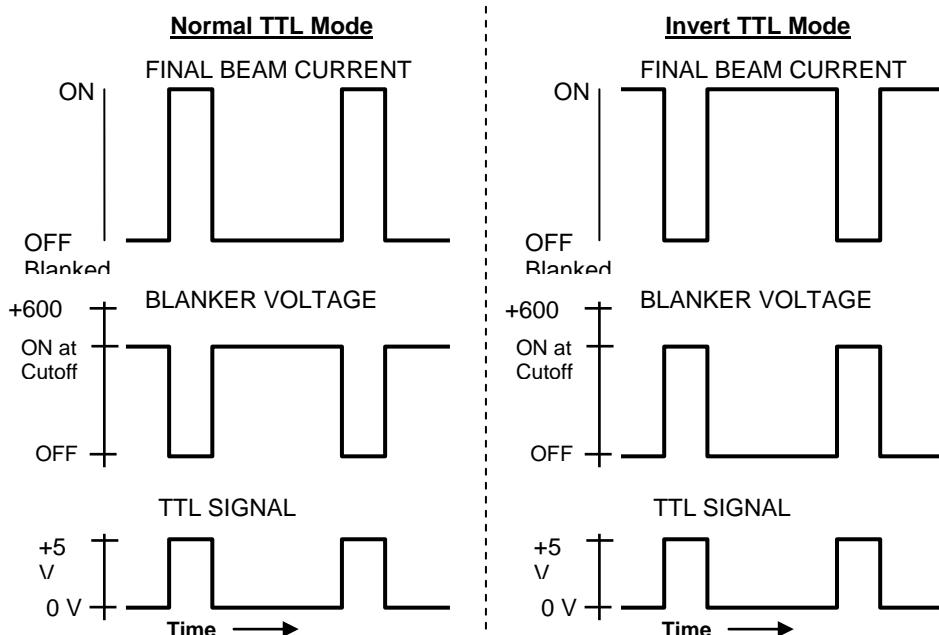

Fig. 4.10-3 Normal and inverted TTL pulsing signal, Blanker response to signal, and final beam current response.
8. Inverting the signal (optional): If desired, the signal can be reversed by changing the toggle switch labeled **NORMAL/INVERT** to the **INVERT** position. (See Fig. 4.10-3) For example: If the beam is on for 1.0 msec and blanked for 10.0 msec with the switch in the **NORMAL** position, switching to the **INVERT** position will cause the beam to be on for 10.0 msec and blanked for 1.0 msec.